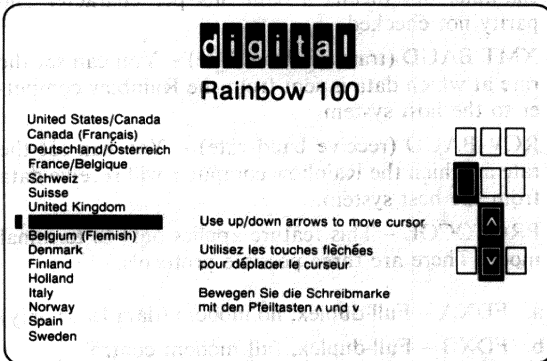

Figure 2-4 Language Selection Menu
26. **KEYBOARD (PC100B only)** – You can choose another keyboard language with this setting. Change the setting to 0, press **<Shift/S>** to save the setting, and reset the computer by pressing **<Ctrl/Set-Up>**. The computer will display the language selection menu (Figure 2-4). Follow instructions on the screen to select a new language.